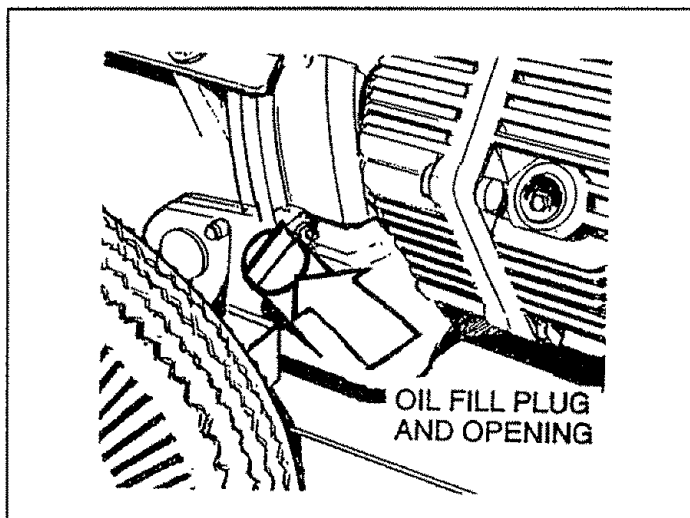

FIG. 17
- Place pressure washer on a level surface and remove one of the yellow Oil Fill Caps (Fig. 17) and add engine oil from the enclosed bottle until level is at point of overflowing. Check engine oil level before starting each time thereafter. If oil level is below point of overflowing, fill to proper level. Crankcase oil capacity is about 620ml or 21 fluid ounces.